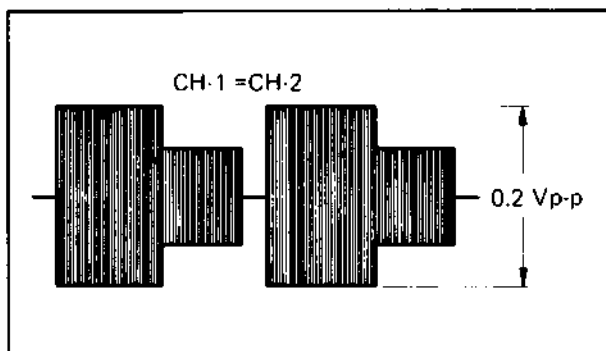

Fig. 5-32 Color level
4. Adjust R2 (COLOR LEVEL) on the record amplifier circuit during Record mode, then play back it, so that the level of TP-202 is 0.2 ± 0.05 Vp-p as shown in Fig. 5-32.